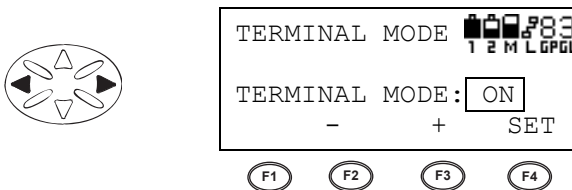

Figure 3-147. Change Setting
- Press the **left/right cursor key** or **F2/F3** (-/+) to select ON (Figure 3-147). Press **F4** set the GB-1000 in terminal mode.